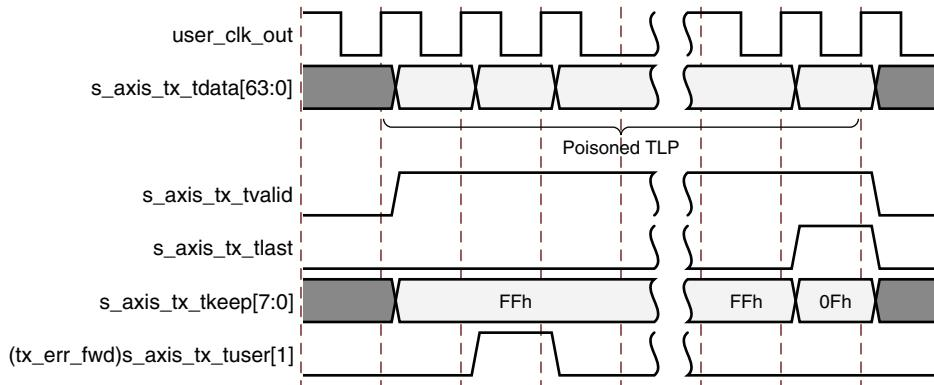

Figure 3-12: Packet Data Poisoning on the Transmit Interface
- Assert **s\_axis\_tx\_tuser[1] (tx\_err\_fwd)** for at least one valid data transfer cycle any time during the packet transmission, as shown in Figure 3-12. This causes the core to set EP = 1 in the TLP header when it transmits the packet onto the PCI Express fabric. This mechanism can be used if the user application does not know whether a packet could be poisoned at the start of packet transmission. Use of **terr\_fwd** is not supported for packets when **s\_axis\_tx\_tuser[2] (tx\_str)** is asserted (streamed transmit packets). In streaming mode, you can optionally discontinue the packet if it becomes corrupted. See Discontinuing Transmission of Transaction by Source for details on discontinuing packets.